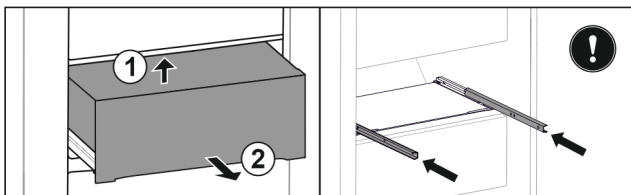

Fig. 35*
- ▶ Lift up at the back from below Fig. 35 (1).*
- ▶ Remove to the front Fig. 35 (2).*